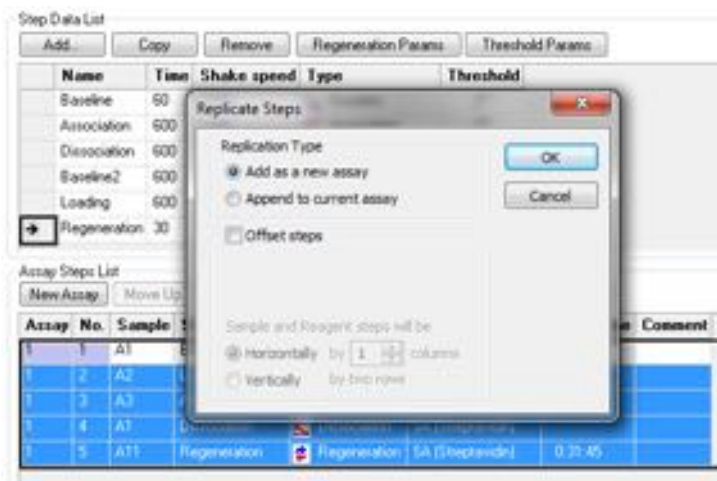

Figure 8-42: Adding a Replicate Assay to a Plate
2. In the **Replicate Steps** dialog box, click the **Add as a new assay** option (Figure 8-42).